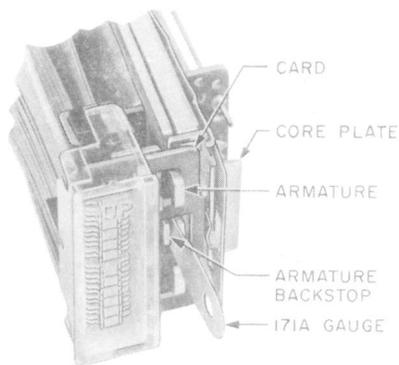

Fig. 9—Gauge Inserted Between Armature and Armature Backstep of AL-Type Relay
(1) **AL-Type Relays:** Take care that the front edge of the gauge rests against the core plate as shown in Fig. 9. Make sure that the long axis is horizontal and that the gauge is not inserted beyond the front of the core plate.